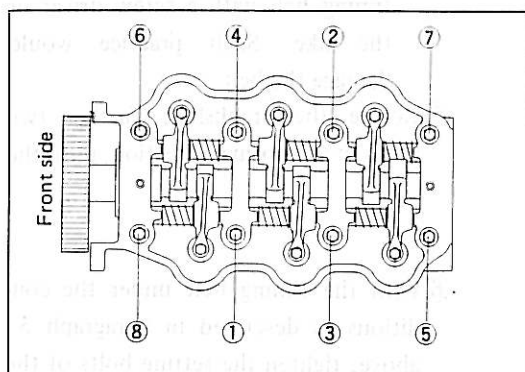

Fig. 3-88 Cylinder Head Bolt Tightening Sequence
- (2) Make sure to use a new cylinder head gasket. And torque the cylinder head bolts to the specifications, following the tightening sequence as indicated in Fig. 3-88.